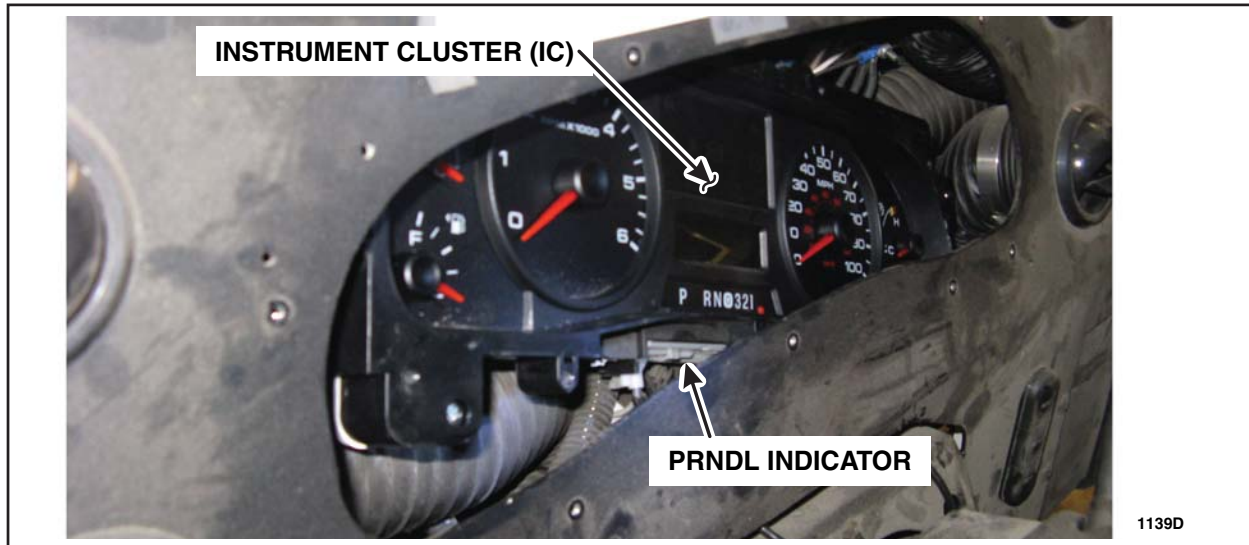

FIGURE 4
- Partially disassemble the instrument panel or remove the Instrument Cluster (IC) to gain access to the PRNDL indicator. Refer to the Coach Builders repair manual for further information if necessary. See Figure 4.
NOTE: Figures 4 and 5 show one example of access to the PRNDL indicator. Due to instrument panel design variations of the different coach builders, this example may not be representative, and access for other vehicles may be different.
2. Install/reassemble the IC. Refer to the Coach Builders repair manual for further information if necessary. See Figure 4.